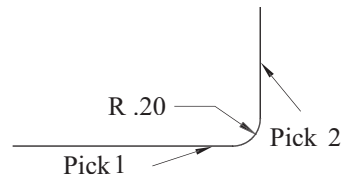

Figure 18 Selection Points for the .2 Radius Fillet
44. The user prompt states “Fillet: select an entity”. **Use the mouse to select the entities in the lower right hand corner of the part. Choose line 1 and then choose line 2 as shown in Figure 18.**